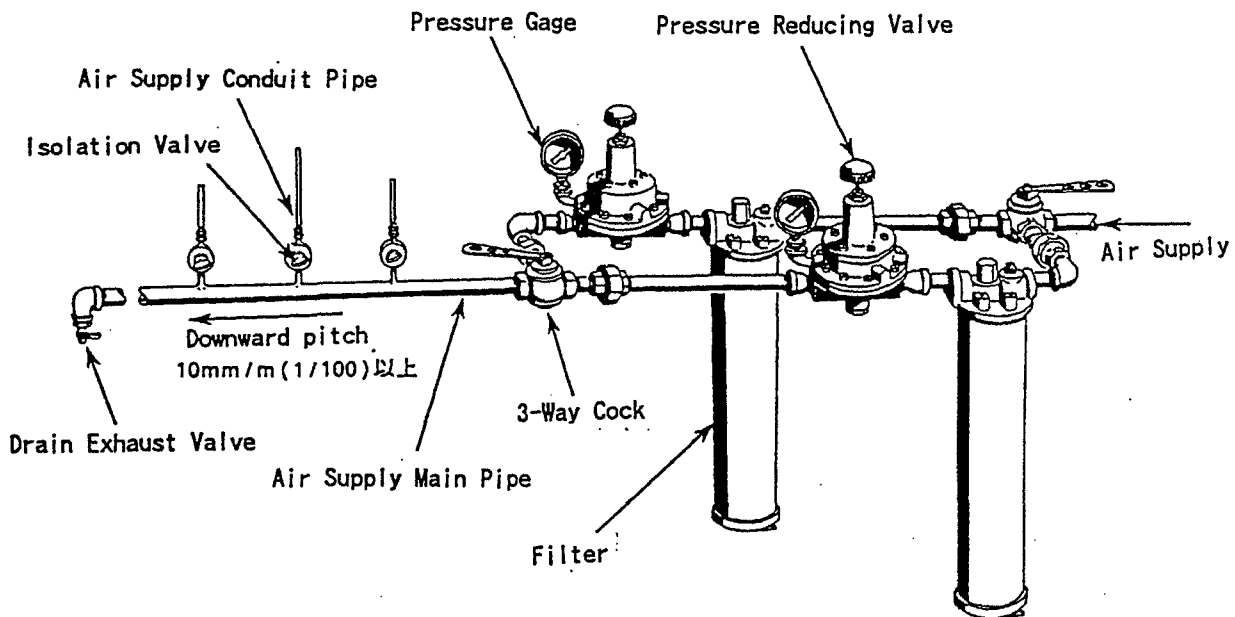

Fig. 6.9 Example of Air Supply System
As shown in Fig. 6.9, two (2) pressure reducing valves are recommendable to use in parallel in case of plenty of applicable instruments.
Parallel disposition will serve to keep operation in case either one of the valves is clogged. As shown in Fig. 6.9, use of 3-way cock can separate either one of the air supply systems when it requires maintenance.